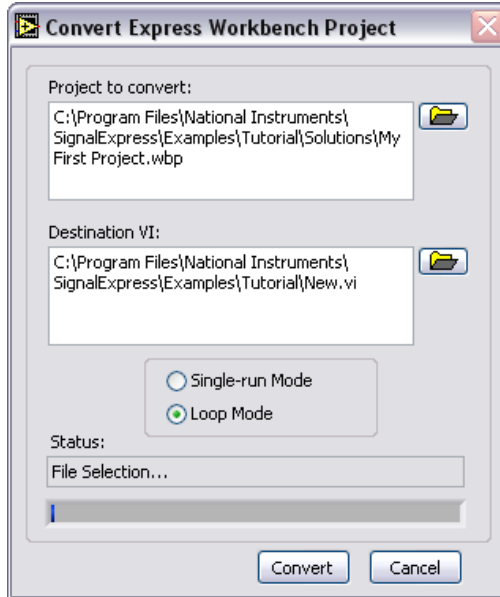

Figure 6-2. Convert Express Workbench Project Dialog Box
5. Select the **Loop Mode** option, as shown in Figure 6-2, and click the **Convert** button to start the conversion.